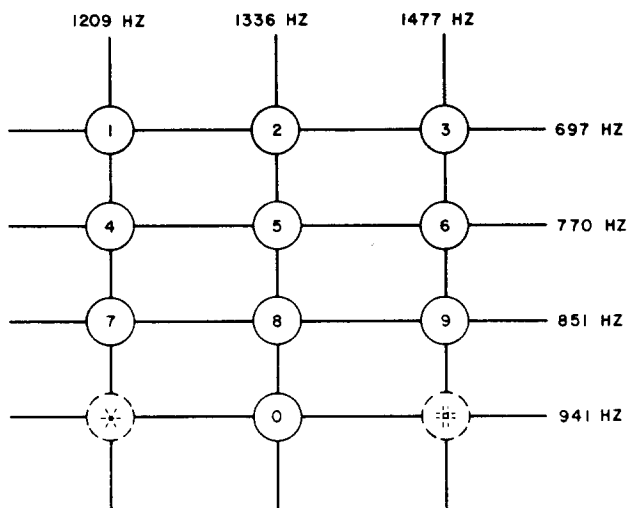

Fig. 3—Dial Frequencies
- 2.03 Each of the buttons, when operated, generates a signal distinctive to that button (Fig. 3). All buttons operate the common switch which reduces sidetone to the receiver, opens the transmitter path, and turns on the oscillator circuit to generate the proper frequencies.